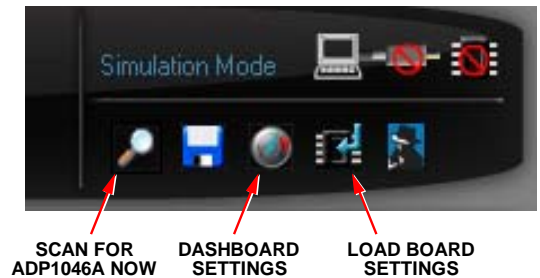

Figure 7. GUI Icons
6. If the software does not detect the device, it enters into simulation mode. Ensure that the connector is connected to the daughter card. Click the **Scan for ADP1046A Now** icon located on the top right hand corner of the screen, as shown in Figure 7.
7. Click the **Load Board Settings** icon (see Figure 7) and select the **ADP1046A_FBPS_600W_XXXX.46b** file. This file contains all the board information, including values of shunt and voltage dividers. Note that all board setting files have a **.46b** file extension.
11. Click the **Dashboard Settings** icon (see Figure 7) and turn on the software PS_ON.